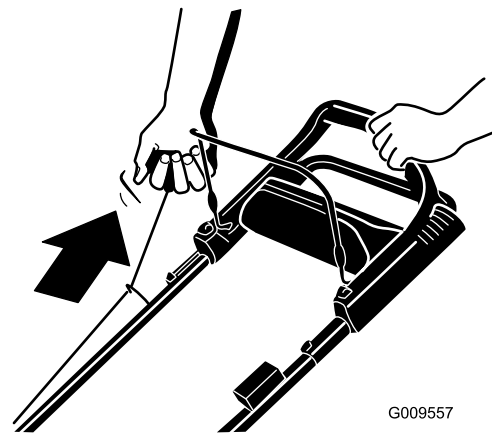

Figure 12
2. Pull the recoil starter lightly until you feel resistance, then pull it sharply (Figure 12). Allow the rope to return to the handle slowly.